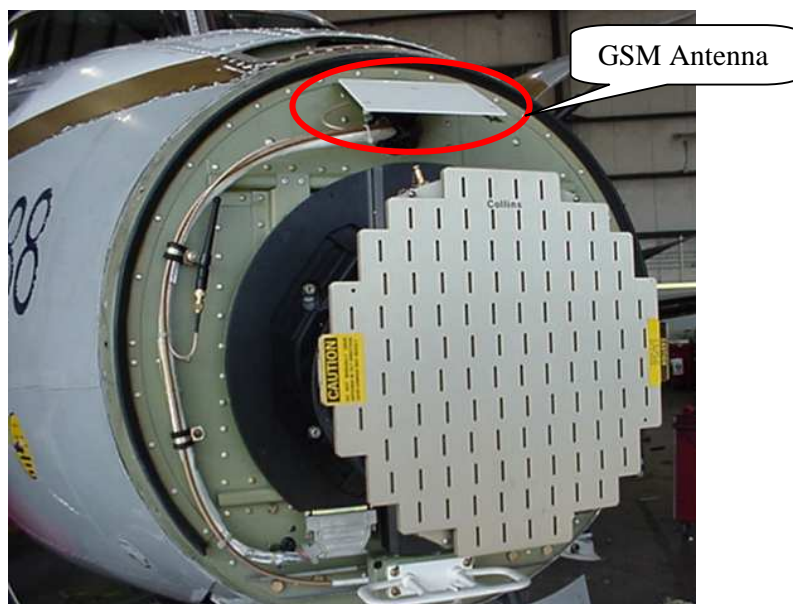

Figure B- 10: GSM Antenna Location
- 020 Locate the GSM antenna mounting bracket (DTU-D-106-1) as shown in Figure B- 10. Using the bracket as a template mark and drill two mounting holes to accommodate a #10 screw.